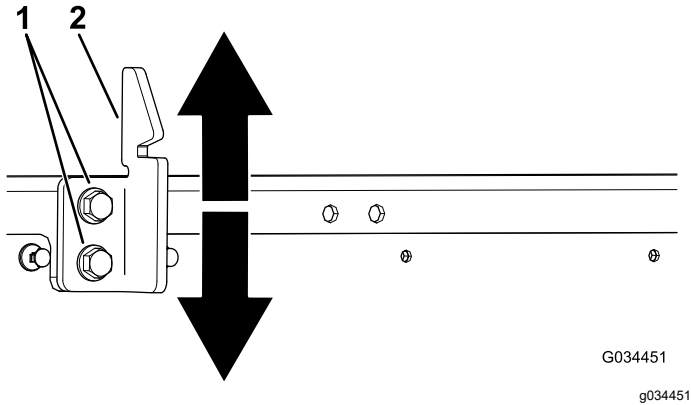

Figure 52
3. Loosen the 2 bolts on the box-latch striker and move the striker up or down, depending on if the striker is too high or too low (Figure 52).
4. Tighten the 2 bolts on the box-latch striker (Figure 52).